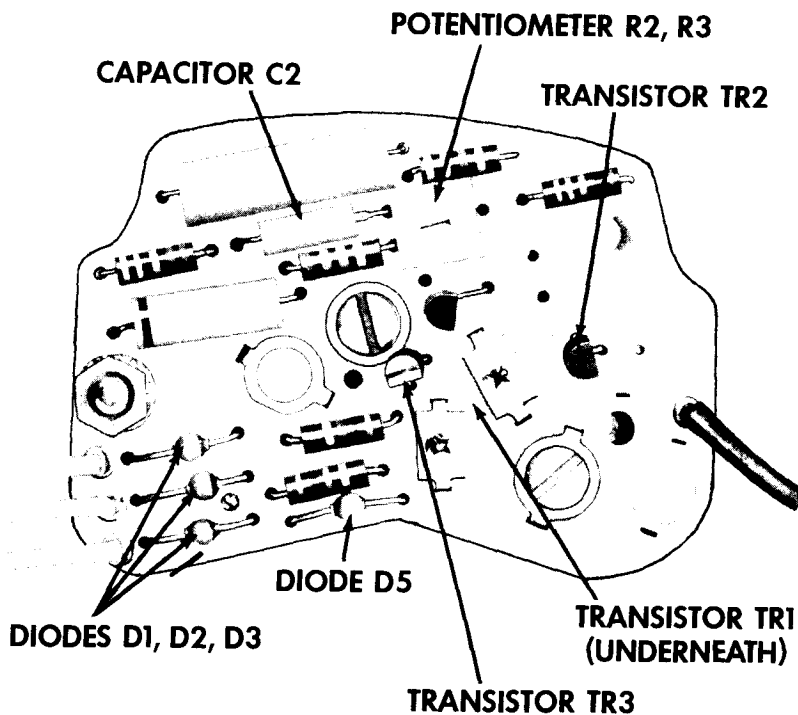

Figure 16—Panel Board Assembly.
REGULATOR REPLACEMENT OR REPAIR (Figure 16 only)
- A. The panel board is shown without the sealing compound so the seven (7) serviceable parts can be easily identified (Figure 16).
IMPORTANT: Change ohmmeter to X10 or middle scale. With ohmmeter connected, turn potentiometer slotted screw, Figure 16. Ohmmeter needle should deflect slightly. If no deflection at all, replace R2.
Regulator Shown in Figure 16.